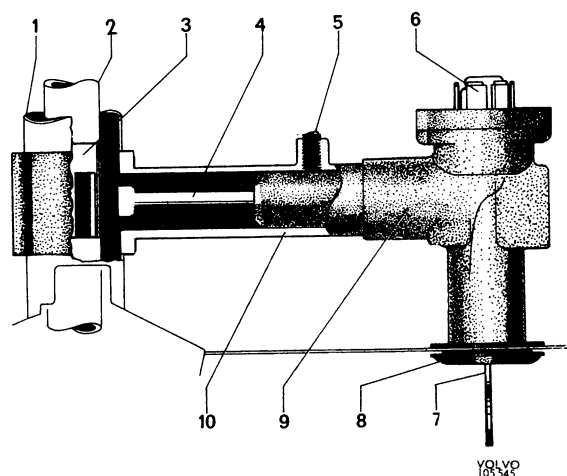

Fig. 6-31. Steering wheel lock parts
The vehicle engine has been made tamper-proof by means of a steering wheel lock integrally built with the ignition switch. The ignition switch has four positions, 0-I-II-III. When the steering wheel is turned, so that a slot on the lock lug (3, Fig 6-31) comes opposite the lock pin, the pin enters the slot and locks the steering wheel column so that the front wheels cannot be turned. When the ignition key is inserted and switched to position "I", the lock pin is pulled back and this releases the steering column which is secured in a withdrawn position. At position "I", the vehicle can be moved with the ignition switched off.
3. Take off the sheared lock bolt (5, Fig. 6-31). Use an angle driller and bolt extractor. Bolt diameter 8 mm (5/16").
4. Press in the rubber bush (8) and lift forward the steering wheel lock.